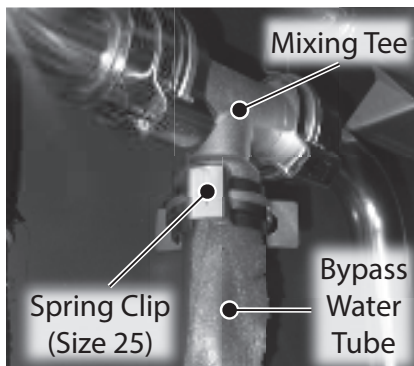

Figure 203 - Remove spring clip from bypass water tube
15 Locate the mixing tee and bypass water tube as shown in Figure 203. Remove the spring clip (size 25) securing bypass water tube to bypass valve and mixing tee. Place spring clip aside in a safe place for reinstallation.
- Locate the new mixing tee and three (3) O-rings provided in the kit. Install the two (2) large O-rings (21.8 x 2.4) to mixing tee. Remove and replace the one (1) small O-ring (15.5 x 2.5) on the bypass water tube (mixing tee side). See Figure 203 for location of bypass water tube.